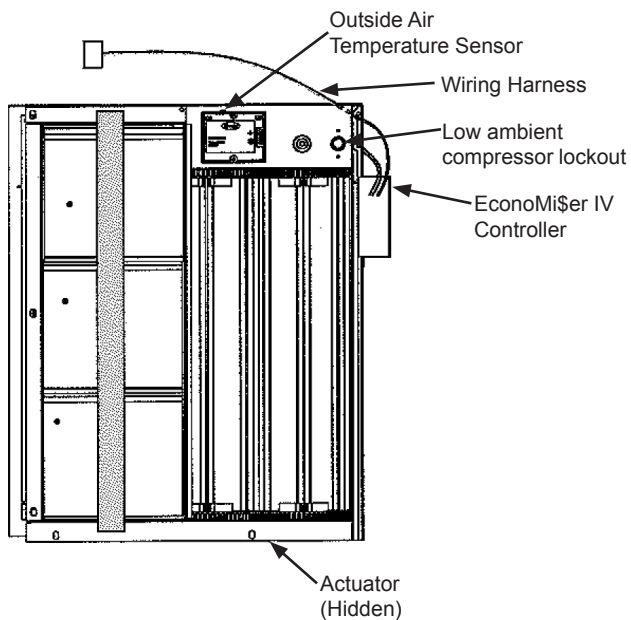
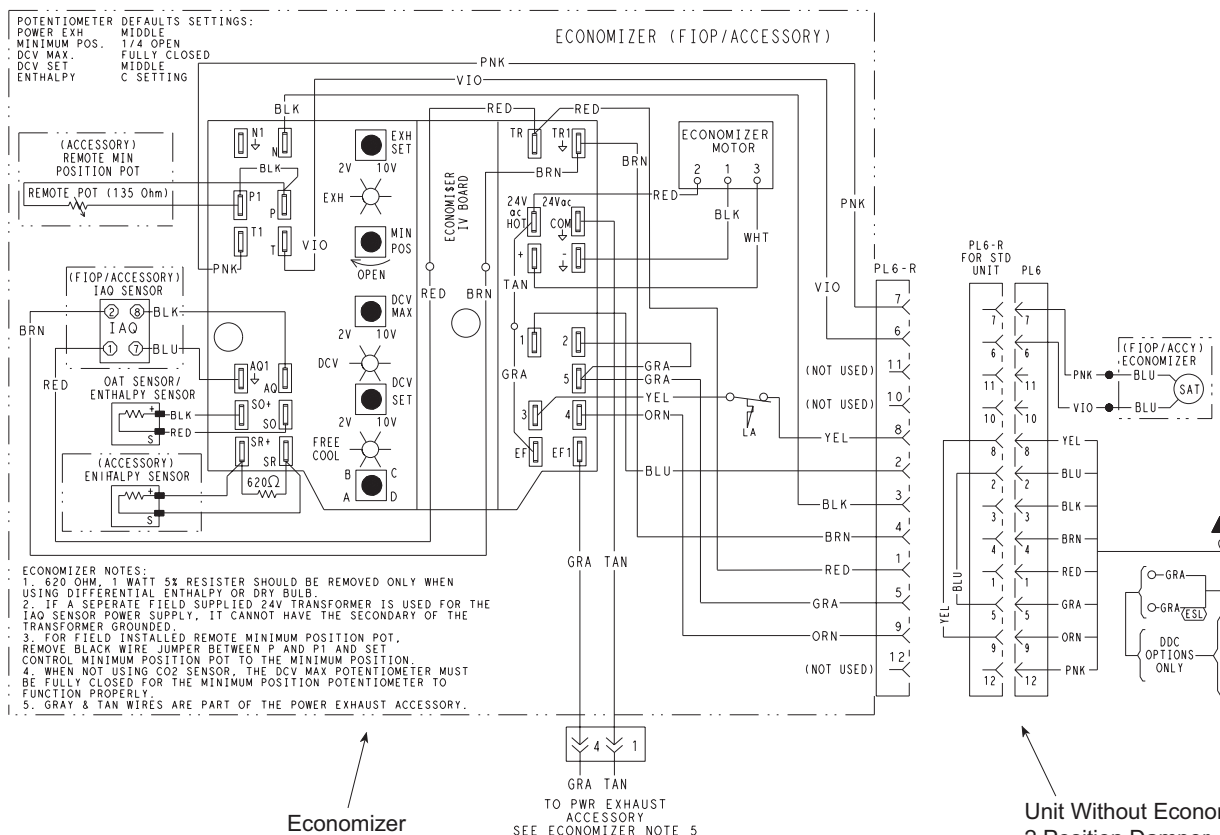
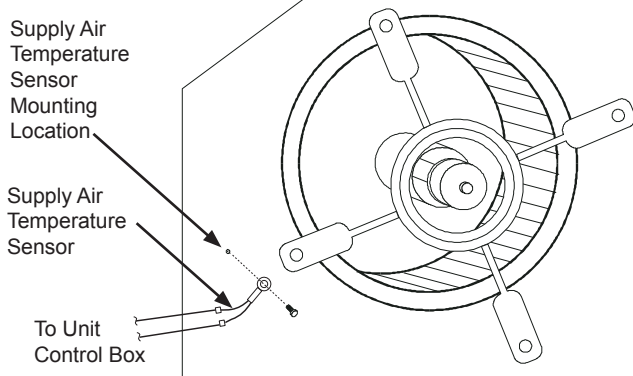
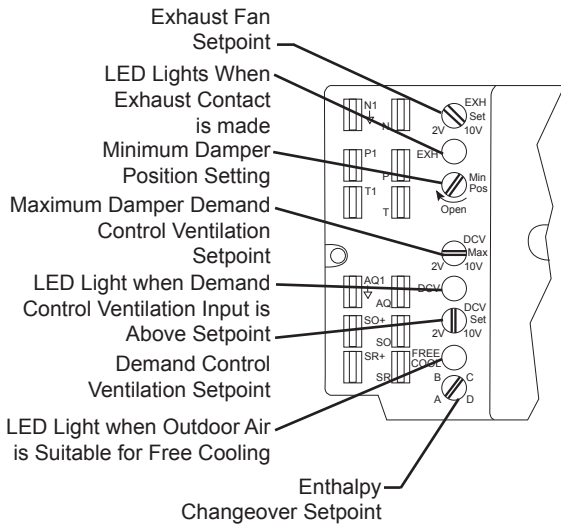

Fig. 1 - EconoMi\$er IV Component Locations
Fig. 8 - EconoMi\$er IV Wiring
Fig. 10 - Supply Air Sensor Installation Location
Fig. 14 - EconoMi\$er IV Controller Potentiometer and LED Locations
- If EconoMi\$er IV will be operating under enthalpy control, replace the factory installed outdoor dry bulb temperature sensor with accessory enthalpy sensor HH57AC078. (See Fig. 1.)
- Remove and save the 12-pin jumper plug from the unit wiring harness (located in the upper left corner of the unit). Insert the EconoMi\$er IV plug into the unit wiring harness. Refer to Fig. 8 for wiring diagram.
14. The supply air temperature sensor looks like an eyelet terminal with wires running to it. The sensor is located on the “crimp end” and is sealed from moisture. Mount the supply air temperature sensor (provided) to the lower left section of the indoor fan blower housing. (See Fig. 10.) Use the screw provided and use existing hole. Connect the violet and pink wires to the corresponding connections on the supply air temperature sensor. (See Fig. 8.)
OCCUPANCY CONTROL (R22 MODELS) — The factory default configuration for the EconoMiSer IV control is occupied mode. Occupied status is provided by the black wire from Pin 3. When unoccupied mode is desired, install a field supplied timeclock function interrupting the black wire to the N terminal. (See Fig. 8) When the timeclock contacts
SUPPLY AIR TEMPERATURE (SAT) SENSOR — The supply air temperature sensor is a 3 K thermistor located at the inlet of the indoor fan. (See Fig. 10) This sensor is field installed. The operating range of temperature measurement is 0° to 158° F. See Table 5 for sensor temperature/resistance values. The temperature sensor looks like an eyelet terminal with wires running to it. The sensor is located in the “crimp end” and is sealed from moisture.
LOW TEMPERATURE COMPRESSOR LOCKOUT SWITCH — The EconoMiSer IV is equipped with a low ambient temperature lockout switch located in the outdoor airstream which is used to lock out the compressors below a 42° F ambient temperature. (See Fig. 1)
OUTDOOR ENTHALPY CHANGEOVER — For enthalpy control, accessory enthalpy sensor (part number HH57AC078) is required. Replace the standard outdoor dry bulb temperature sensor with the accessory enthalpy sensor in the same mounting location. (See Fig. 1) When the outdoor air enthalpy rises above the outdoor enthalpy changeover set point, the outdoor-air damper moves to its minimum position. The outdoor enthalpy changeover set point is set with the outdoor enthalpy set point (ABCD) potentiometer on the EconoMiSer IV controller. The set points are A, B, C, and D (See Figs. 14, 17 & 18). The factory-installed 620-ohm jumper must be in place across terminals SR and SR+ on EconoMiSer IV controller. (See Fig. 8). When not using CO2 sensors, set the DCV Max potentiometer to completely closed (CCW) to insure that the Minimum Position potentiometer functions correctly.
DIFFERENTIAL ENTHALPY CONTROL — For differential enthalpy control, the EconoMi\$er IV controller uses two enthalpy sensors, HH57AC078 in the outside air and CRENTDIF004A00 in the return airstream. The EconoMi\$er IV controller compares the outdoor air enthalpy to the return air enthalpy to determine EconoMi\$er IV damper position. The controller selects the lower enthalpy air (return or outdoor) for cooling. For example, when the outdoor air has a lower enthalpy than the return air, the EconoMi\$er IV opens to bring in outdoor air for free cooling. Replace the standard outside air dry bulb temperature sensor with the accessory enthalpy sensor in the same mounting location. (See Fig. 1) Mount the return air enthalpy sensor in the return air duct. (See Fig. 8 and 16) When using this mode of changeover control, turn the outdoor enthalpy set point (ABCD) potentiometer fully clockwise to the D setting.
POWER EXHAUST SET POINT ADJUSTMENT—If the optional power exhaust accessory is installed, the exhaust set point will determine when the power exhaust fan runs based on damper position. The set point is modified with the Exhaust Fan Set Point (EXH SET) potentiometer. (See Fig. 14) The set point represents the damper position above which the exhaust fans will be turned on. When there is a call for exhaust, the EconoMi\$er IV controller provides a 45 ± 15 second delay before exhaust fan activation to allow the dampers to open. This delay allows the damper to reach the appropriate position to avoid unnecessary fan overload.
MINIMUM DAMPER POSITION CONTROL —There is a minimum damper position potentiometer on the EconoMi\$er IV controller. (See Fig. 14). Adjust the Min Pos potentiometer to allow the minimum or base amount of outdoor air, as required by local codes, to enter the building. Make minimum position adjustments with at least 10°F temperature difference between the outdoor and return-air temperatures. The minimum damper position maintains the minimum airflow for full occupancy into the building during the occupied period when demand control ventilation is not being used).